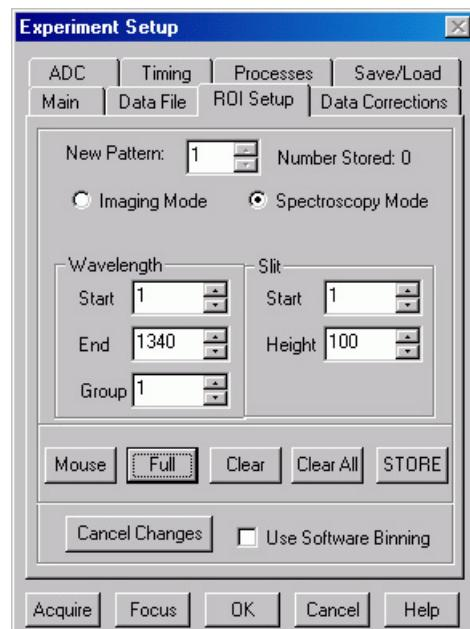

Figure 35. ROI dialog
6. On the **ROI** tab page select **Spectroscopy Mode** as shown in Figure 35. The **Use Full Chip** selection on the **Main** tab page overrides any ROI settings that may be present.